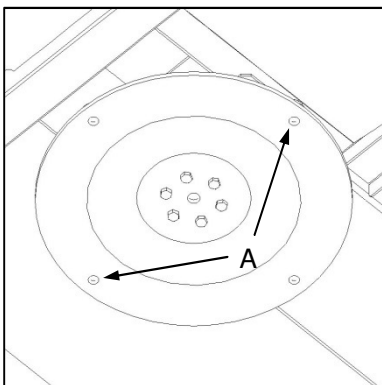

Fig. 9
- ✔ Check blade mounting holes (Fig. 9-A) for signs of wear, elongation or fractures. (Note that an alternate, opposing set of blade mounting holes is available on each disk if required). In the event of any observed defect do NOT attempt a repair, but provide immediate replacement of the defective disk.
- ✔ Gaan lemmonteringsgate (Fig. 9-A) na vir tekens van slytasie, rekking of breuke. (Let op dat 'n alternatiewe teenoorliggende stel lemmonteringsgate op elke skyf beskikbaar is indien benodig.) In die geval van enige waargenome defek, moet NIE probeer om dit herstel nie, maar vervang die defekte skyf onmiddellik.